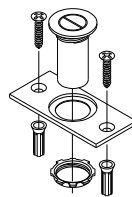

Fig. 5-3
4. Drill a $\frac{3}{4}$ " diameter x 1 $\frac{3}{4}$ " deep hole into the floor where it is marked. If floor strike assemblies (Fig. 5-3) are required, the hole should be drilled 1 $\frac{3}{8}$ " x 2 $\frac{5}{16}$ " deep.